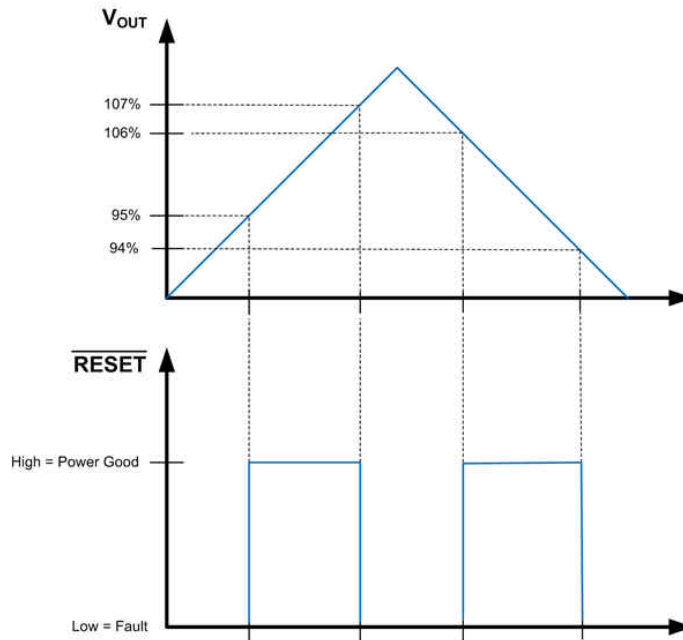
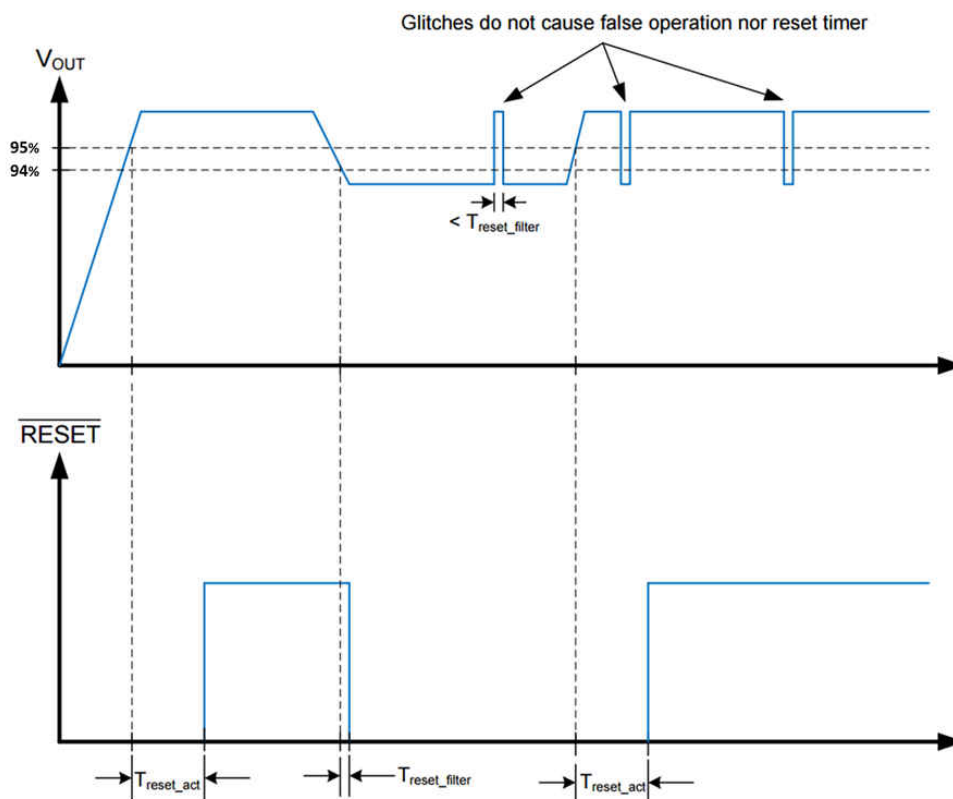

图 8-2. Static RESET Operation
图 8-3. RESET Timing Behavior
The RESET function, built into the LM53625/35-Q1, has special features not found in the ordinary Power-Good function. A glitch filter prevents false flag operation for short excursions in the output voltage, such as during line and load transients. Furthermore, there is a delay between the point at which the output voltage is within specified limits and the flag asserts Power Good. Because the RESET comparator and the regulation loop share the same reference, the thresholds track with the output voltage. This allows the LM53625/35-Q1 to be specified with a 96.5% maximum threshold, while at the same time specifying a 94 % worst case threshold with respect to the actual output voltage for that device. This allows tighter tolerance than is possible with an external supervisor device. The net result is a more accurate Power-Good function while expanding the system allowance for transients, and so forth. RESET operation can best be understood by reference to Figure 8-2 and Figure 8-3. The values for the various filter and delay times can be found in Table 7.7. Output voltage excursions lasting less than $T_{\text{RESET-filter}}$ do not trip RESET. Once the output voltage is within the prescribed limits, a delay of $T_{\text{RESET-act}}$ is imposed before RESET goes high.
- A delay has been added for release of reset. See 图 8-2 and 图 8-3 for more detail.